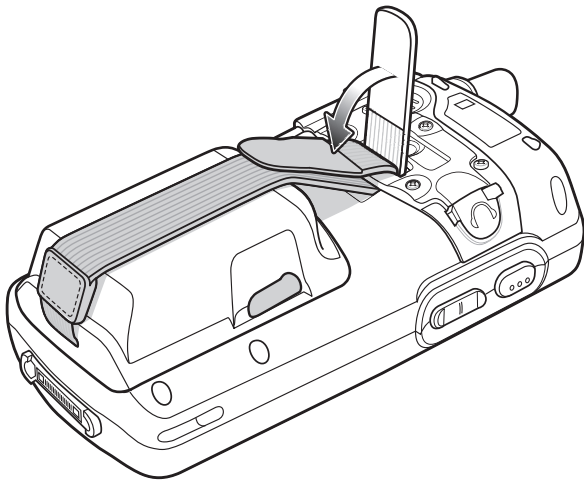

Figure 1-9 Handstrap Adjustment
2. Secure the handstrap by pressing the two sides together as shown in Figure 1-9.